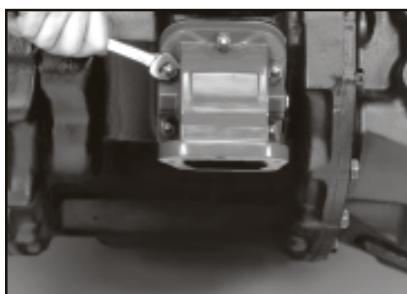

Fig. 9
9. Secure Adapter to the transmission. Use Self Locking nuts provided with Adapter (See Fig. 9). Torque all flange nuts to their proper specifications.